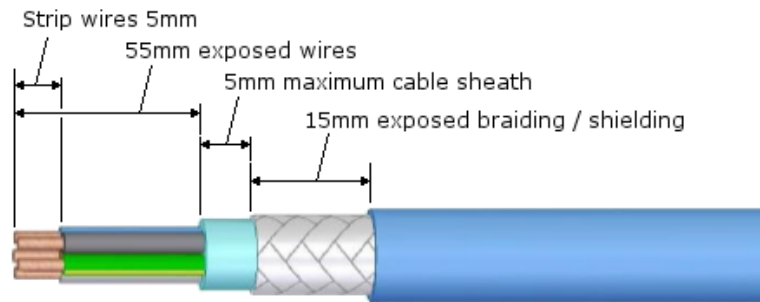

Figure 5-3 - Cable Prep
4. Prepare your cable ready for connection; shielding should be exposed and wire ends trimmed as shown; refer to Figure 5-3.